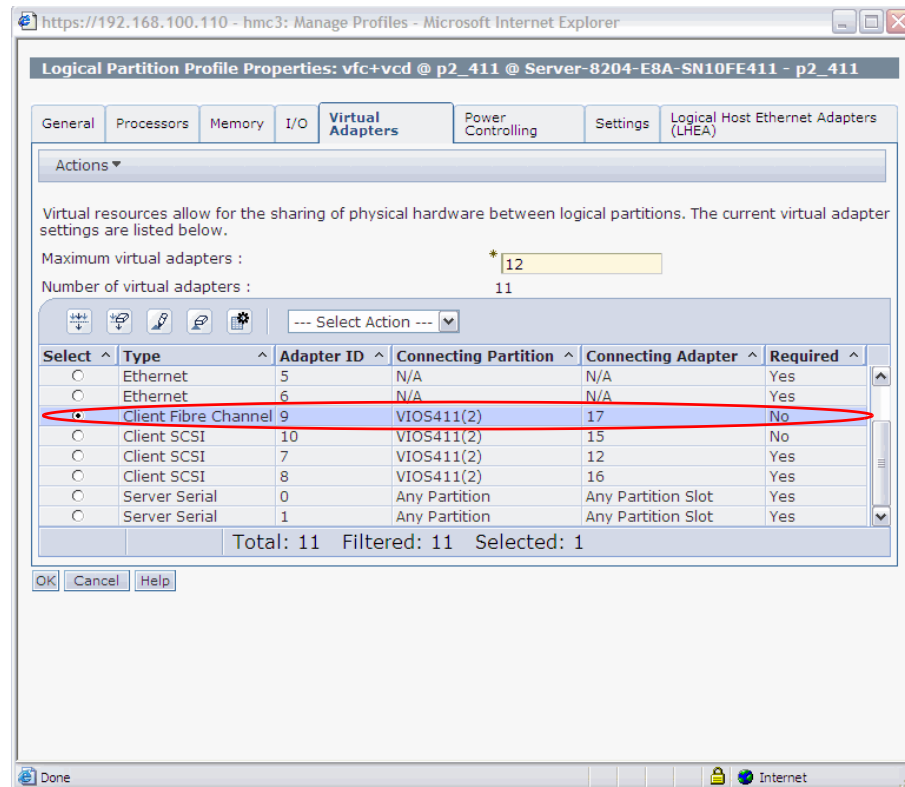

Figure 2-8 Virtual Fibre Channel client adapter created in client partition profile
2. Create the virtual Fibre Channel client adapter in the client partition profile. If you want the adapter and storage to be visible after a partition shutdown, save the configuration to a new profile and use the new profile when starting up the partition. You should see something similar to the highlighted portion in Figure 2-8 when this step is complete.